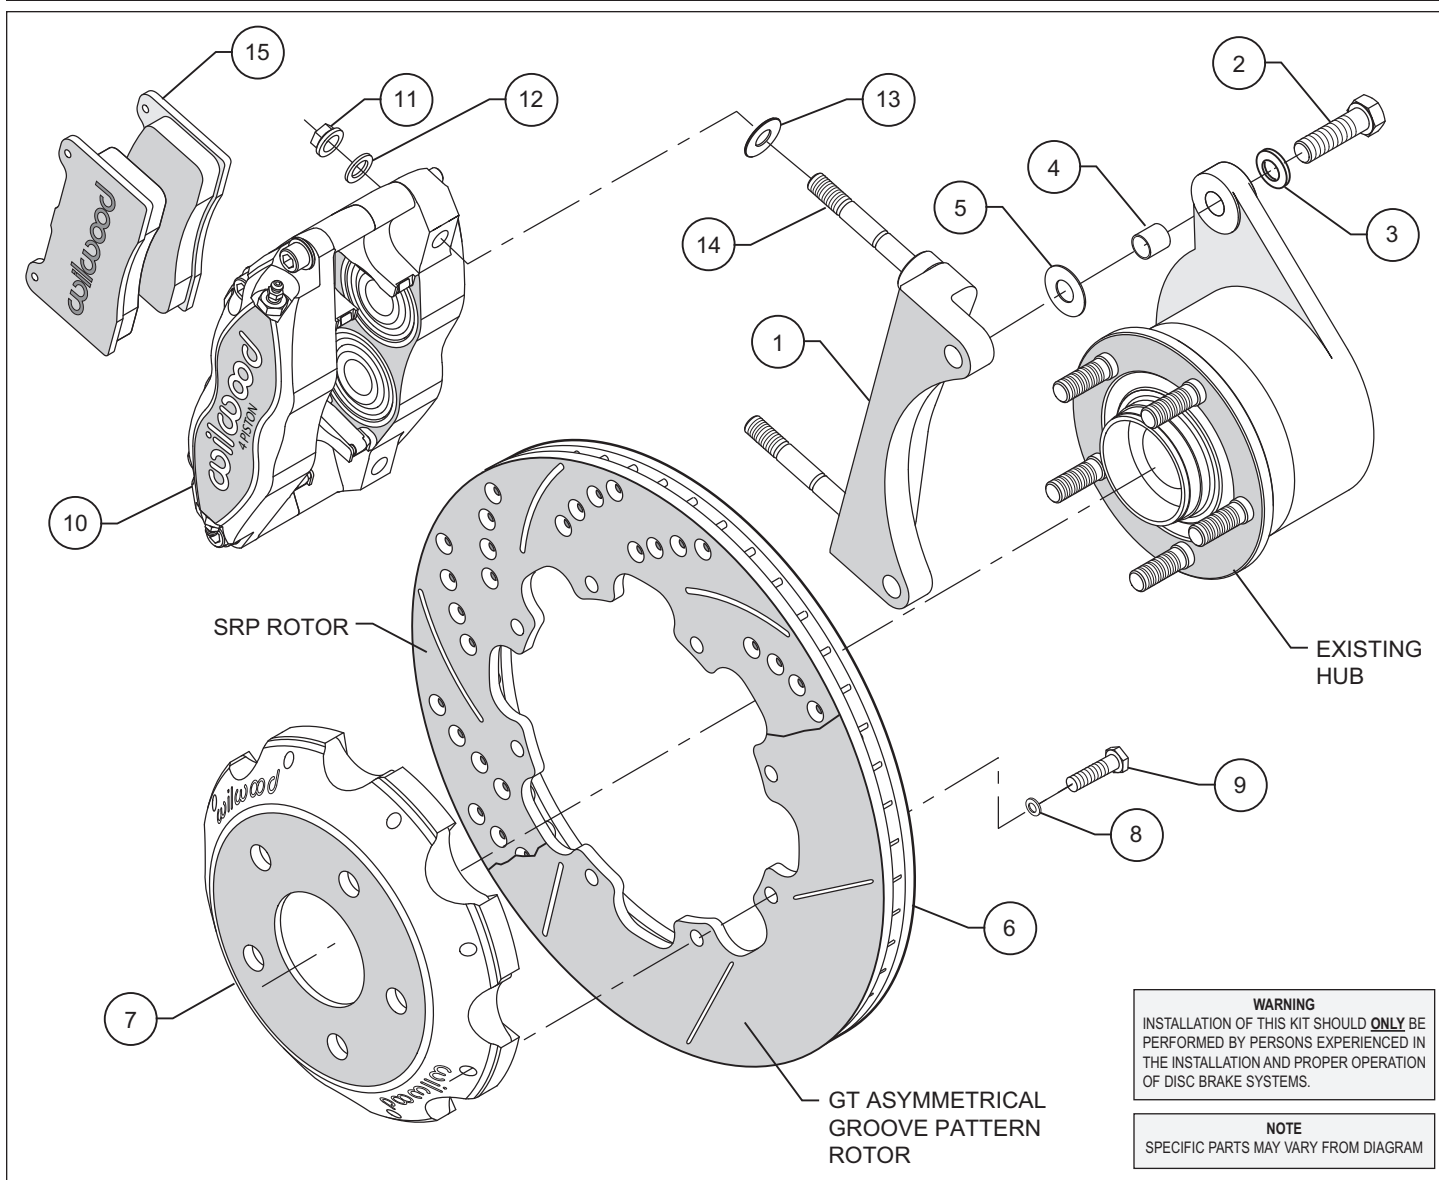
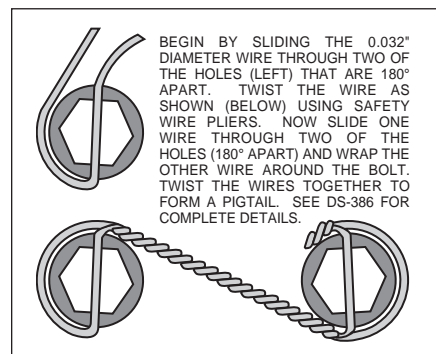

Figure 1. Typical Installation Configuration
Figure 3. Safety Wire Diagram
- Insert one sleeve (4) each into the holes on the top and bottom spindle "ears" where the OEM caliper bracket was removed. The caliper mounting bracket assembly (1) should be installed first with clean, dry threads on the mounting bolts. Install the bracket from the front side of the spindle by sliding bolts (2) through washer (3) and sleeve (4). Place .030 thick shim (5) between the bracket and the front side of the spindle, Figure 1. The bracket must tighten squarely against the side of the spindle body. Inspect for interference from casting irregularities, machining ridges, burrs, etc. Use one shim (5) between the spacer and spindle during initial trial fitting.
- With the larger I.D. side of the rotor (6) facing away from the hat (7), attach rotor (6) to hat (7) using washers (8) and bolts (9) as shown in Figure 1. Using an alternating sequence, remove bolts one at a time, apply red *Loctite*® 271 to the threads, and torque to 120-144 **in-lb**. Safety wire bolts (9) using standard 0.032 inch diameter stainless steel safety wire as shown in Figure 3. Please refer to Wilwood's data sheet DS-386 (available at www.wilwood.com/pdf/ds386.pdf) for complete safety wire installation instructions.
- Install one shim (13) over each pre-installed stud (14) on the radial mount bracket (1). Slide the caliper (10) in place over the studs and rotors and install the washer (12) and lock nut (11) to hold the caliper in place. Snug the lock nuts (11). View the rotor (6) through the top opening of the caliper (10). The rotor (6) should be aligned in the center of the caliper (10). If not, adjust the caliper (10) by using .030" shims (5) placed between the bracket and the spindle to center the caliper. Always use the same amount of shims on both the top and bottom caliper mounting bolts (2).
- Remove the caliper quick-clip pad retainer from the caliper (10). Slide the brake pads (15) into place. They should install easily without interference. Check that the outside radius of the brake pad is aligned with the outside diameter radius of the rotor face. Add or subtract shims (13) between the caliper and mount bracket to gain the proper alignment. Reinstall the quick-clip pad retainer.
- Once all clearances have been checked, remove the wheel, caliper, hat, and rotor from the spindle and hub. Secure the caliper mounting bracket (1) to the spindle using red *Loctite*® 271. Torque the bolts to 47 ft-lbs. Reinstall the hat and rotor assembly and again use three lug nuts to hold it in place. Lubricate caliper mounting studs and nuts with lightweight oil, reinstall the caliper, torque the caliper nuts (11) to 30-35 ft-lb.